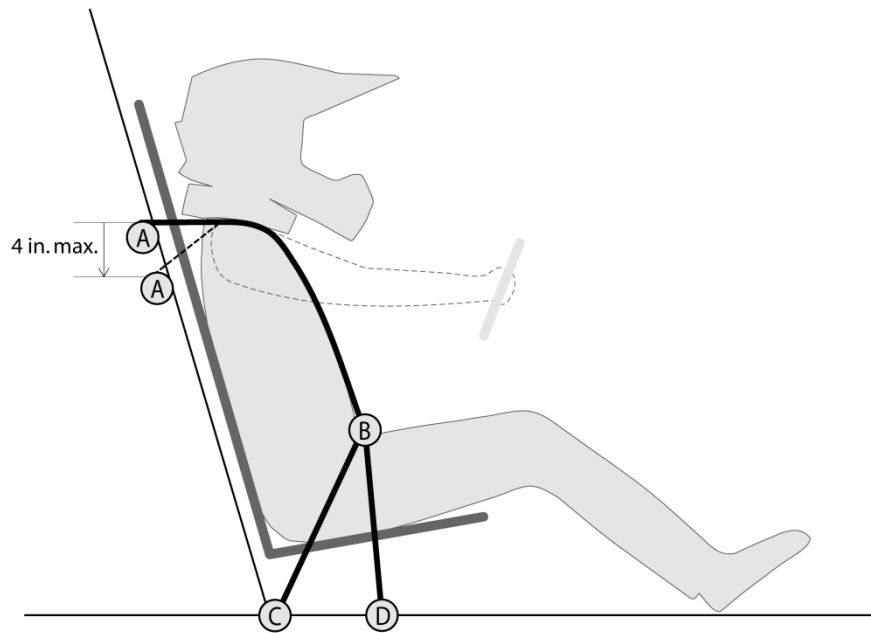

Figure B-27: Driver Harness, Shoulder Harness Vertical Position
The shoulder belt mounting point (A) (see Figure B-27) shall be positioned no higher than vertically level with each driver's shoulders, and no lower than 102 mm (4.0 in.) vertically below each driver's shoulders.